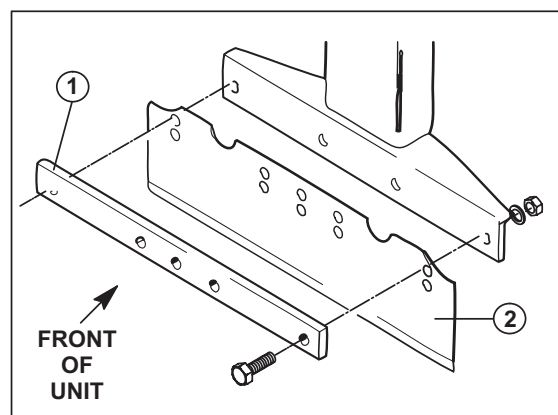

FIGURE 7
12. Attach the cut-off blade **2** and blade mount **1** with 3/8-16x1-1/4" screws and nylon inserts. (6 bolts and nuts for 18" (457mm) and 4 for 16" (406mm)). (Figure 7)